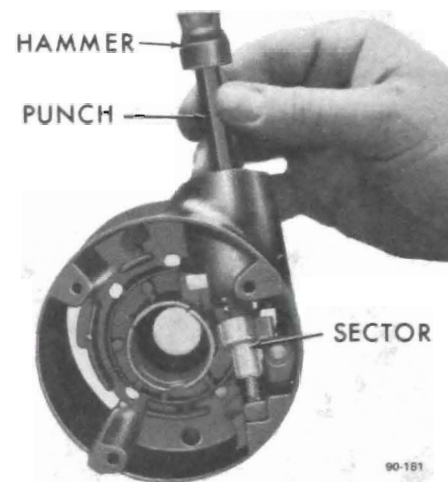

Figure 90-123 - Installing Sector
1. Install the sector in the lock cylinder hole over the sector shaft with the tang end to the outside of the hole. Press the sector over the pin with a blunt tool. See Figure 90-123.